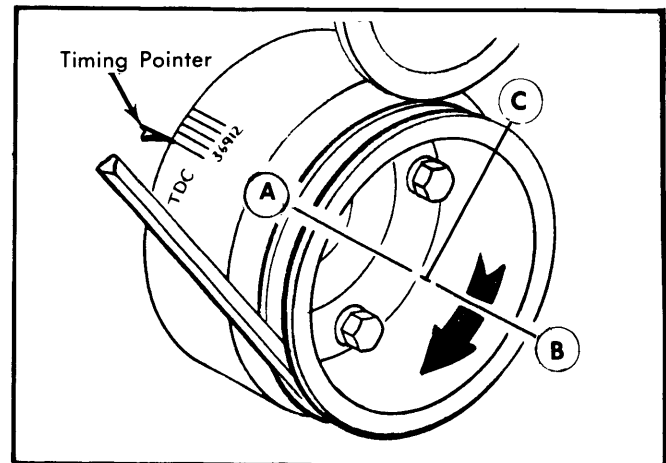

Fig. 8 Crankshaft Positions for Adjusting Hydraulic Valve Lifters
302" Engine — 1) With No. 1 piston on TDC at end of compression stroke (position A in Fig. 8), check valve clearance on the following valves: No. 1 intake, No. 1 exhaust, No. 7 intake, No. 5 exhaust, No. 8 intake, No. 4 exhaust.
2) Rotate crankshaft to position B (see Fig. 8) by rotating crankshaft 180° clockwise from TDC position. Check clearance on the following valves: No. 5 intake, No. 2 exhaust, No. 4 intake, No. 6 exhaust.
3) Rotate crankshaft to position C (see Fig. 8) by rotating crankshaft 270° clockwise from position B. Check clearance on the following valves: No. 2 intake, No. 7 exhaust, No. 3 intake, No. 3 exhaust.
351" W Engine – 1) With No. 1 piston on TDC at end of compression stroke (position A Fig. 8). Check valve clearance on the following valves: No. 1 intake, No. 1 exhaust, No. 4 intake, No. 3 exhaust, No. 8 intake, No. 7 exhaust.
2) Rotate crankshaft to position B (see Fig. 8) by rotating crankshaft 180° clockwise from the TDC position. Check clearance on the following valves: No. 3 intake, No. 2 exhaust, No. 7 intake, No. 6 exhaust.
3) Rotate crankshaft to position C (see Fig. 8) by rotating crankshaft 270° clockwise from position B. Check clearance on the following valves: No. 2 intake, No. 4 exhaust, No. 5 intake, No. 5 exhaust, No. 6 intake, No. 8 exhaust.